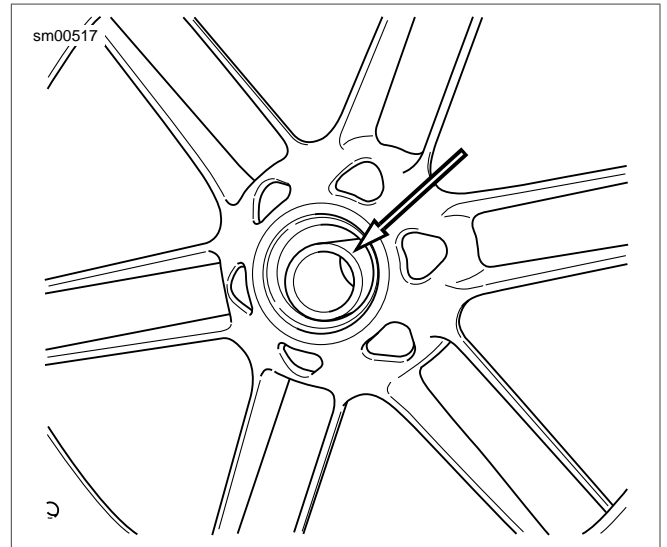

Figure 2-10. Remove the Spacer
2. See Figure 2-10. Remove the spacer.